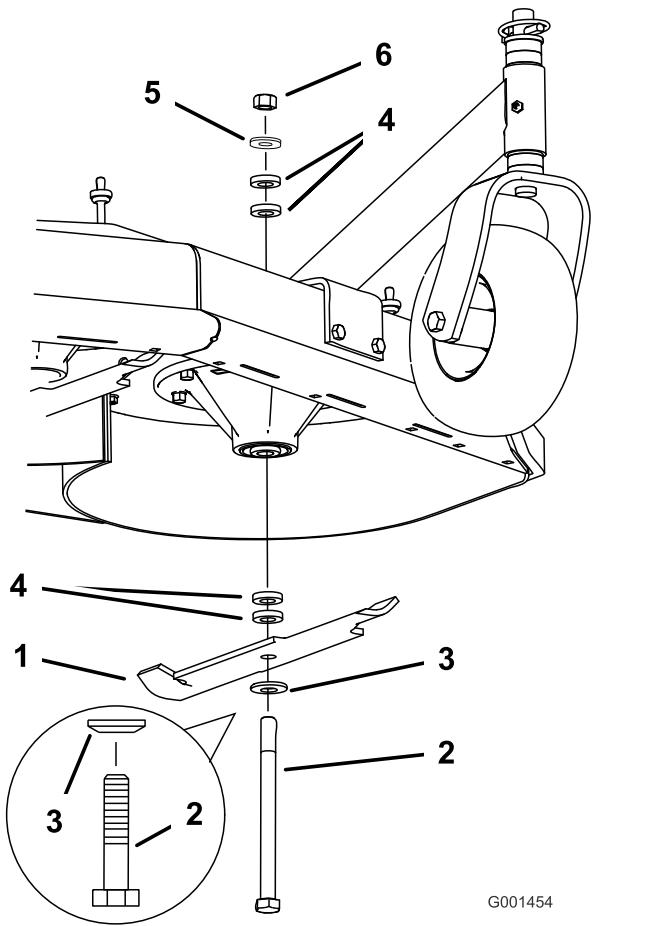

Figure 57
2. Remove the nut, blade bolt, curved washer, blade, spacers, and thin washer from the spindle (Figure 57).
1. Install the bolt, curved washer, and blade. Select the proper number of spacer(s) for the height of cut, and slide the bolt into the spindle (Figure 57).
2. Install the remaining spacer(s) and secure them with a thin washer and a nut (Figure 57).